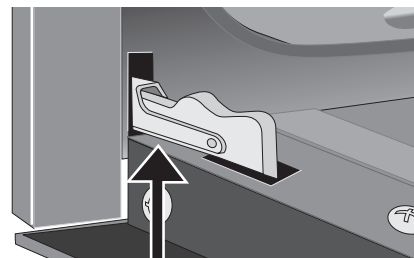
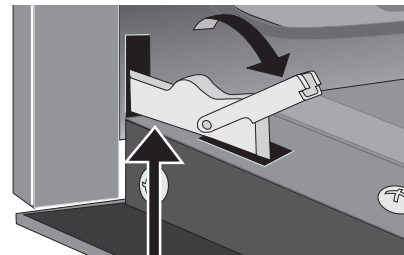

Figure 17: Door hinge locked
Figure 18: Unlocking door hinge
2. Pull up the lock located on each hinge support toward front of the oven until the lock stops. You may have to apply a little upward pressure on the lock to pull it up (Figure 17 and Figure 18).
4. Push the door hinge locks up toward and into the oven frame on both left and right oven door hinges to the locked position (Figure 17).